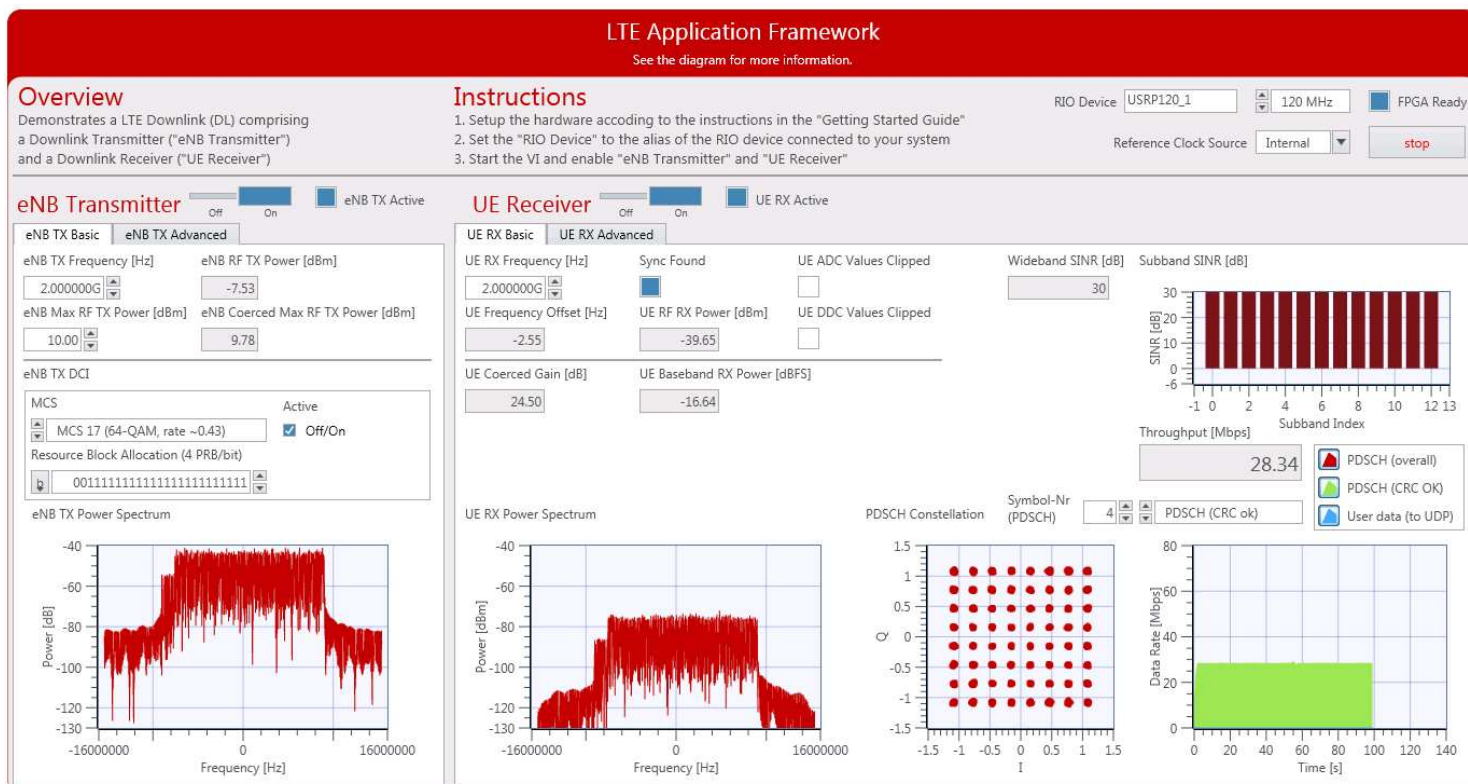
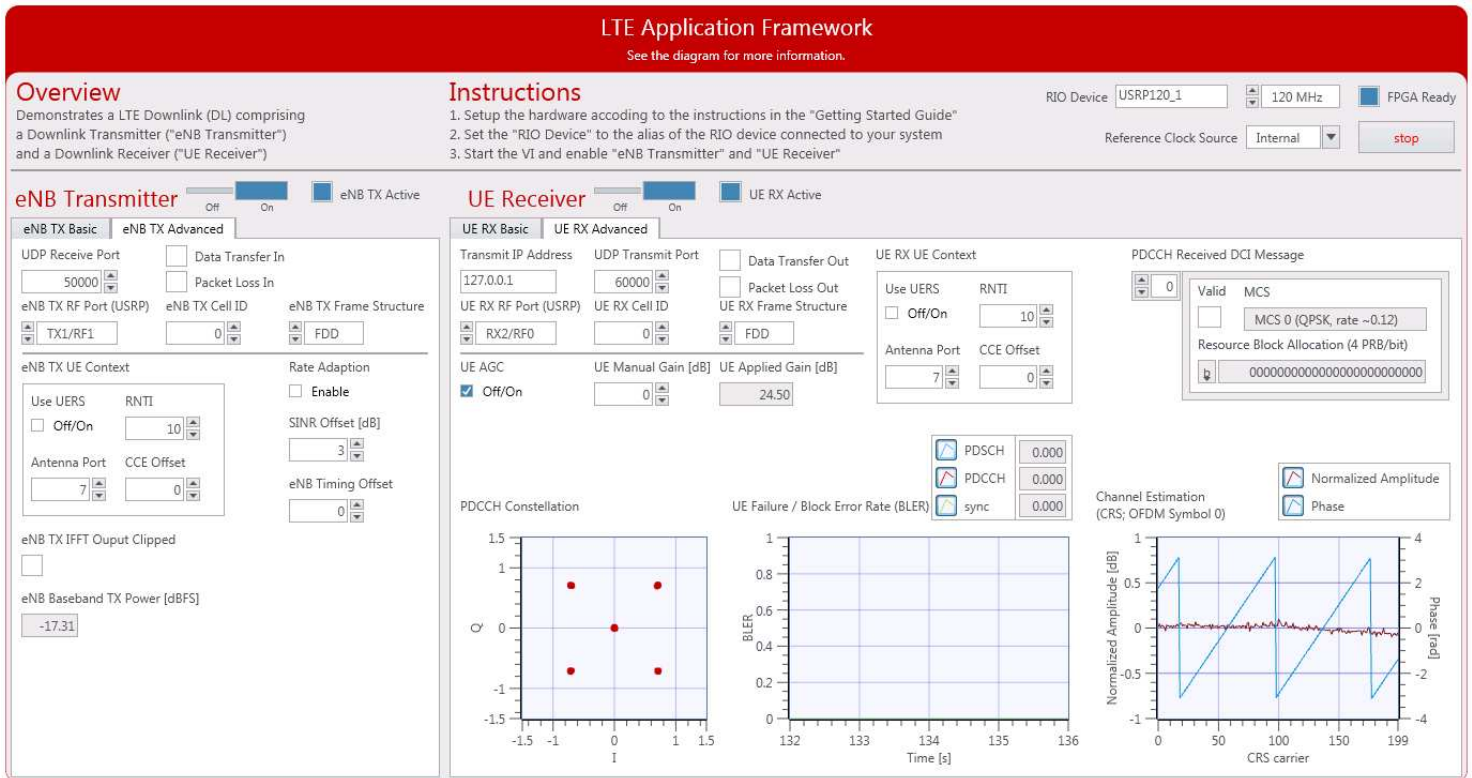

Figure 8 Front panel of LTE Host DL.gvi / Basic Tab when running successfully
Figure 9 Front panel of LTE Host DL.gvi / Advanced Tab when running successfully
If the system is running as expected, the downlink signal generated by the transmitter is correctly received and decoded by the receiver. In this case, the host panel should appear as shown in Figure 8 and Figure 9.
- **Normalized Amplitude:** If using a cabled setup: flat curve around 0 as shown in Figure 9; if using an over-the-air setup: any curve (highs and lows indicate a frequency-selective channel caused by multipath fading)
- **Phase:** If using a cabled setup: saw tooth curve (straight line, wrapping two times) as shown in Figure 9 (indicating that FFT cuts slightly into the cyclic prefix)